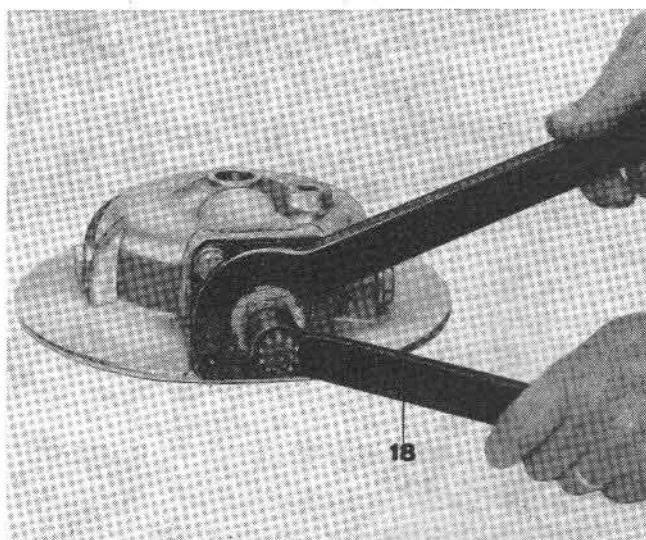

Fig. 85
- by means of tool No. 12907100 and special wrench (see 18 on Fig 85) remove lockring securing bevel pinion, after having flattened safety washer.
- fit shim and adjusting washers on bevel pinion and insert pinion shank into bearing housing, securing it by lockring and lockring safety washer, using tool No. 12907100 and special wrench (see 18 on Fig. 85). Lockring must be locked by washer tongue after adjustment of bevel gear set.